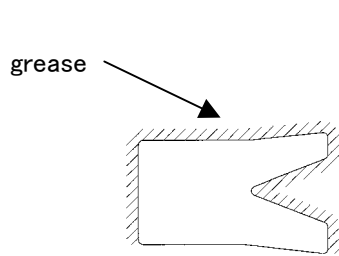
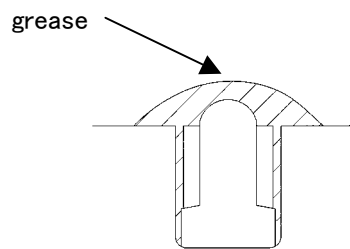
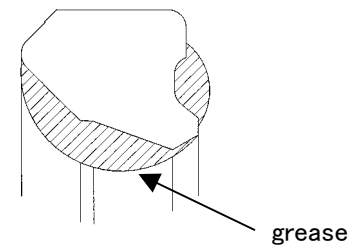

Fig 11. Rod packing
Fig 12. Piston packing
Fig 13. Cushion packing
① Rod packing, Piston packing and Cushion packing【Fig 11, Fig 12, Fig 13】